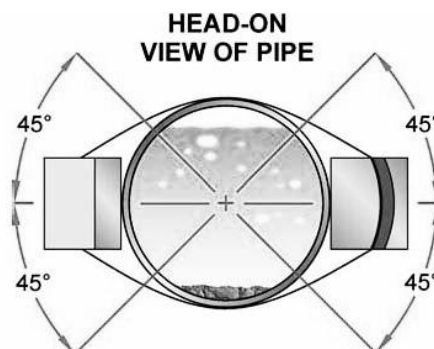

Figure 2.1
The transducers must be properly oriented on the pipe to provide optimum reliability and performance. On horizontal pipes, one pair transducers should be mounted 180 radial degrees from one another and at least 45 degrees from the top-dead-center and bottom-dead-center of the pipe. See Figure 2.1. Figure 2.1 does not apply to vertically oriented pipes. Another pair transducers are installed in the same way.
3. Crease the paper at the fold line. Mark the crease. Place a mark on the pipe where one of the transducers will be located. See **Figure 2.1** for acceptable radial orientations. Wrap the template back around the pipe, placing the beginning of the paper and one corner in the location of the mark. Move to the other side of the pipe and mark the pipe at the ends of the crease. Measure from the end of the crease directly across the pipe from the first transducer location) the dimension derived in Step 2, Transducer Spacing. Mark this location on the pipe.